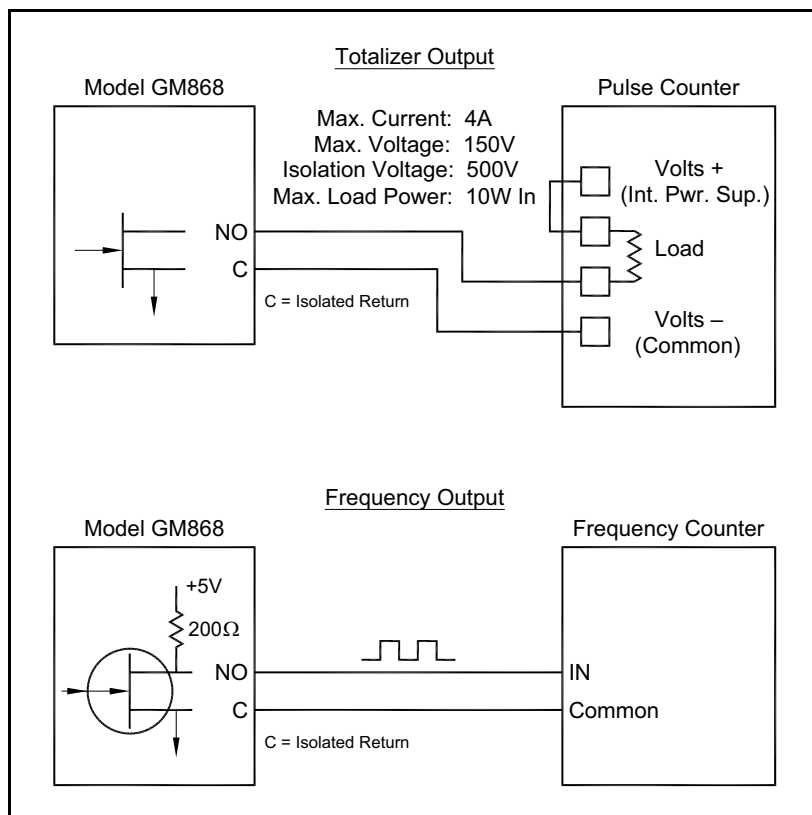
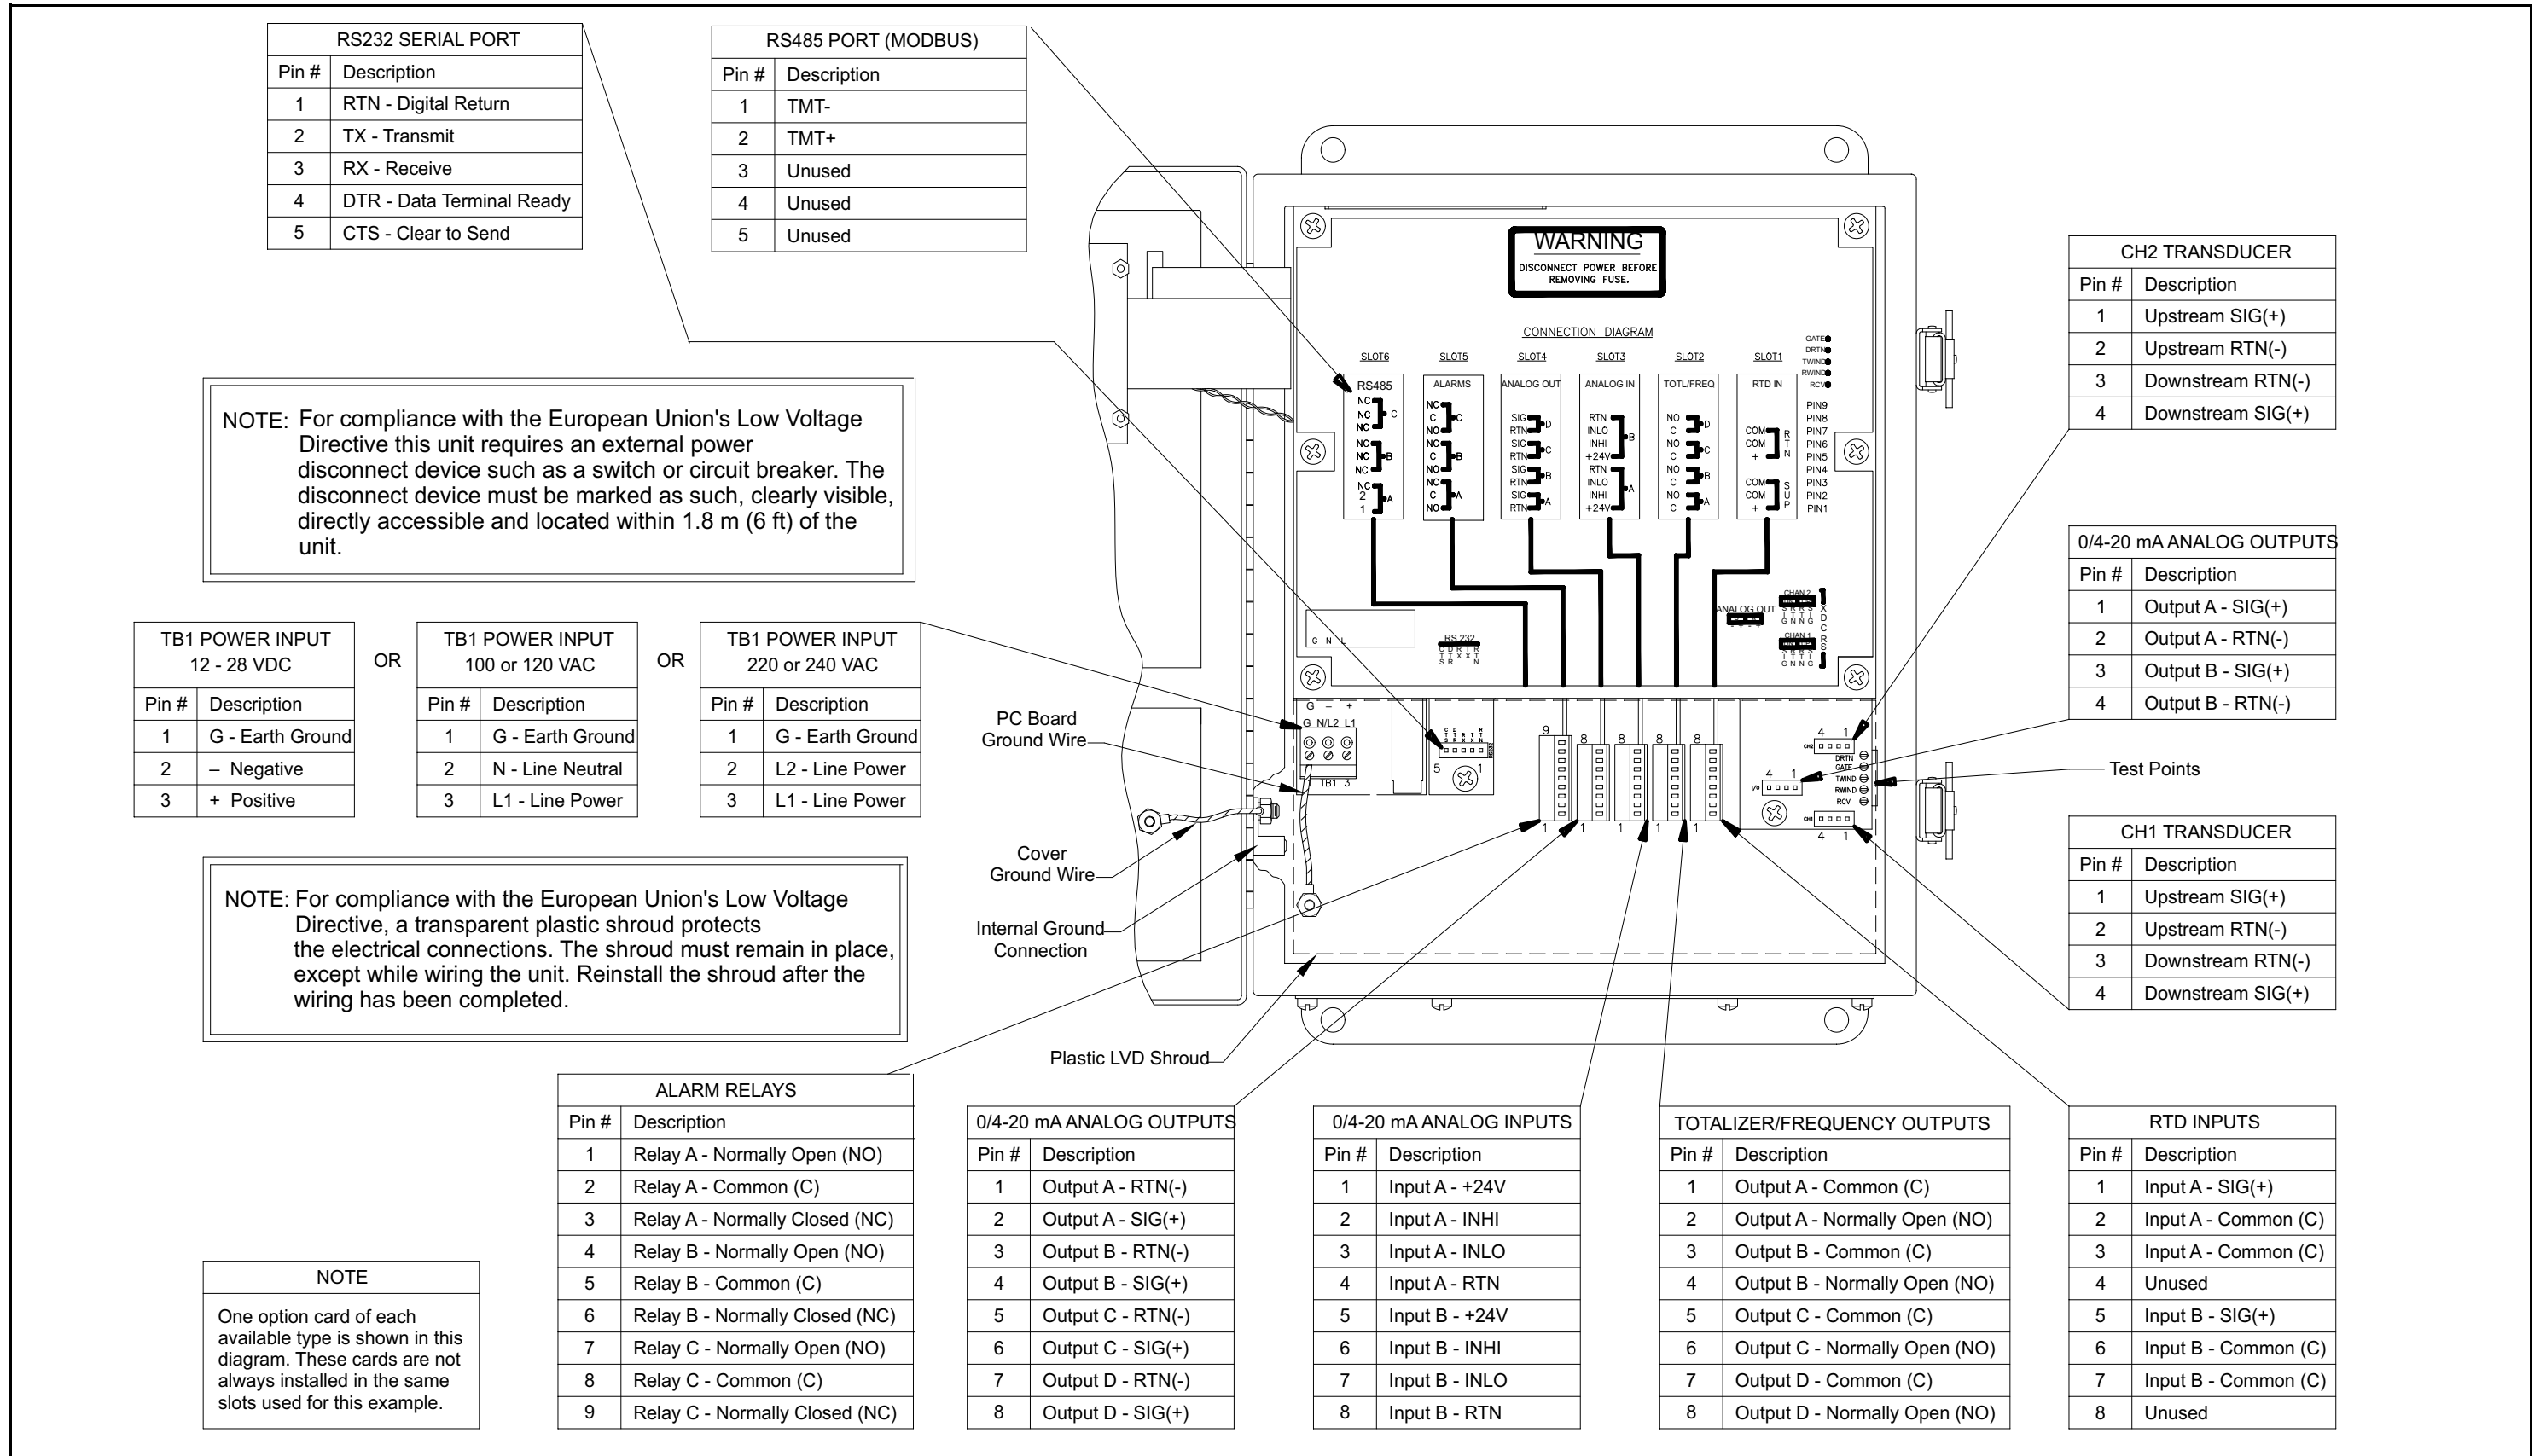

Figure 8: Totalizer/Frequency Outputs Wiring
Figure 10: Model GM868 Electronics Console Wiring (ref. dwg #702-213, sht 1)
3. Using the pair of coaxial cables with BNC to flying lead connectors supplied by the factory (or equivalent cables), connect the preamplifier to terminal block CH1 in the electronics console. Refer to Figure 10 on page 18 for the location of the terminal block and the terminal block pin assignments.
The standard configuration of the Model GM868 flowmeter includes two isolated 0/4-20 mA analog outputs (designated as A and B). Connections to these outputs may be made with standard twisted-pair wiring. The current loop impedance for these circuits must not exceed 550 ohms. Refer to Figure 10 on page 18 for the location of terminal block I/O and wire the terminal block as shown.
The RS232 serial interface is wired as Data Terminal Equipment (DTE), and the signals available at the Model GM868 RS232 terminal block are shown in Table 1 below. Refer to Figure 10 on page 18 to locate terminal block RS232 and complete the following steps to wire the terminal:
To wire the RS485 serial port, refer to Figure 10 on page 18 and complete the following steps:
Connect the two wires required for each alarm relay in accordance with the pin number assignments shown in *Figure 10* on page 18.
Wire the analog input terminal block in accordance with the pin number assignments shown in Figure 10 on page 18.
Each totalizer/frequency output requires two wires. Wire this terminal block in accordance with the pin number assignments shown in *Figure 10 on page 18*. *Figure 8* below shows sample wiring diagrams of a totalizer output circuit and a frequency output circuit.
Each RTD input requires three wires, which should be fed through one of the conduit holes on the bottom of the electronic console. Wire this terminal block in accordance with the pin number assignments shown in *Figure 10 on page 18*.
Connections to these outputs may be made with standard twisted-pair wiring. The total current loop impedance for these circuits must not exceed 1000 ohms. Wire this terminal block in accordance with the pin number assignments shown in *Figure 10 on page 18*.